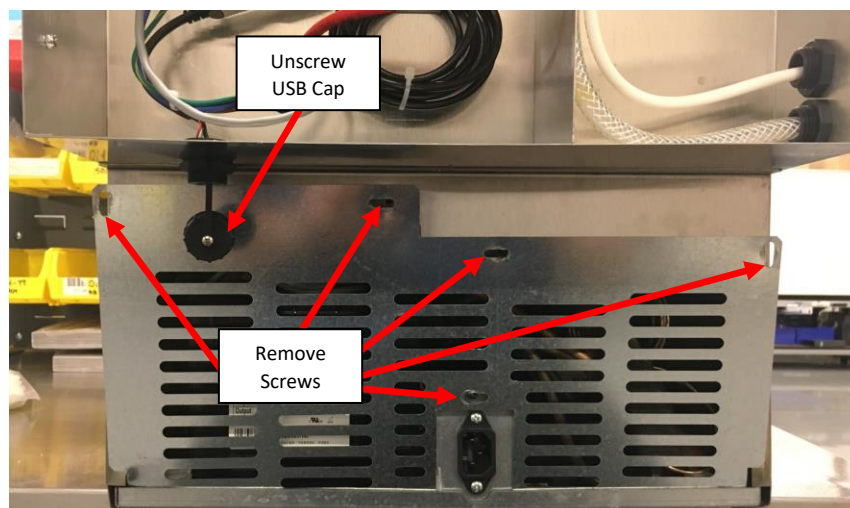

Figure L3: USB Cap shown unscrewed.
3. Remove the Rear Bottom Grill by unscrewing the five (5) screws holding it in place. You will need to open the USB Cap to remove the Rear Bottom Grill. See Figure L3.